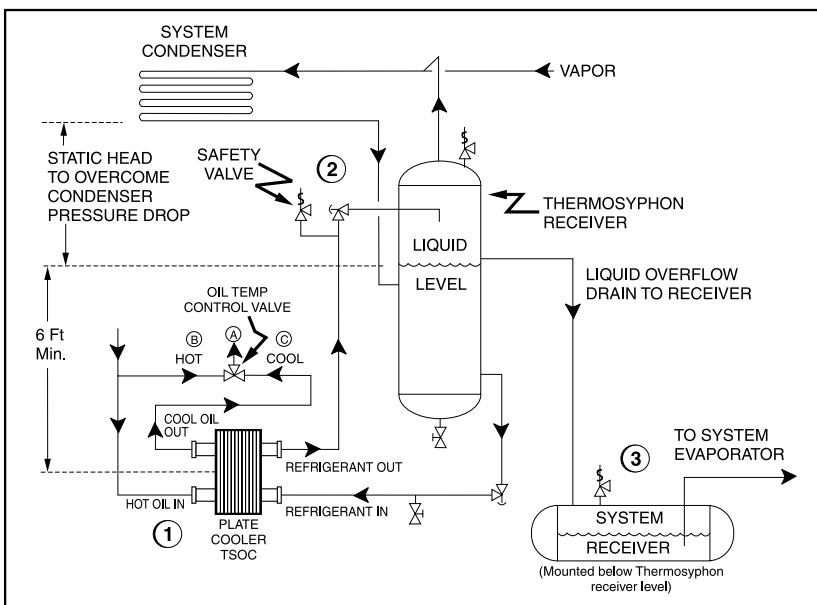

Figure 4
**INSTALLATION:** The plate-type thermosyphon oil cooler with oil side piping and a thermostatically controlled mixing valve are factory mounted and piped. See Figure 4.